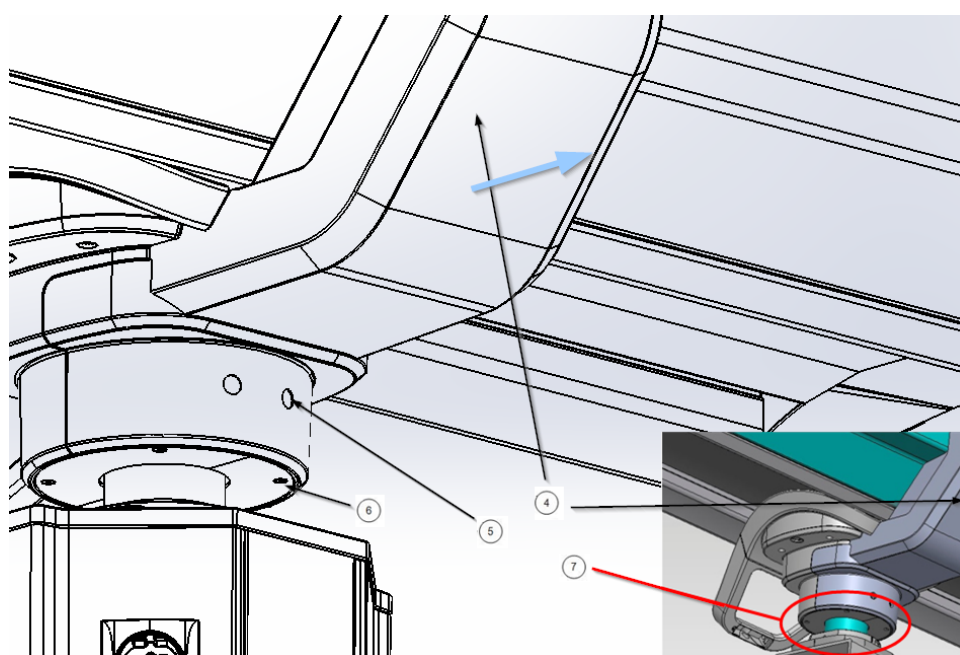

Fig.5 Rear trim removal
- Open the side covers of the service head ① by removing the M4x16 socket head cap screws ④ at the top and bottom. The side cover can now be opened as shown in figure 5, revealing the inside of the service head.